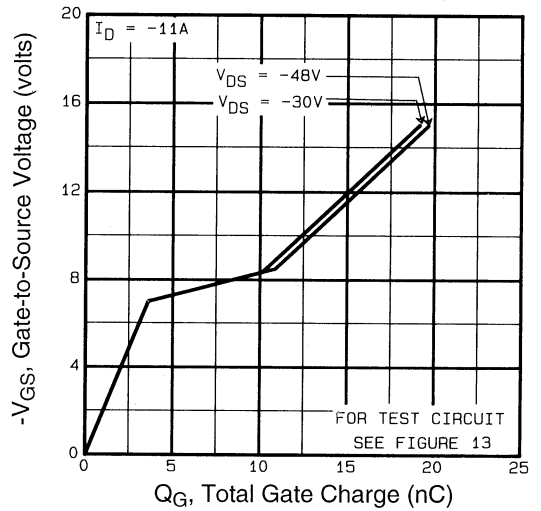

Fig 6. Typical Gate Charge Vs. Gate-to-Source Voltage
| Q_{gd} | Gate-to-Drain ("Miller") Charge | — | — | 11 | | $V_{GS} = -10V$, See Fig. 6 and 13 ④⑤ |